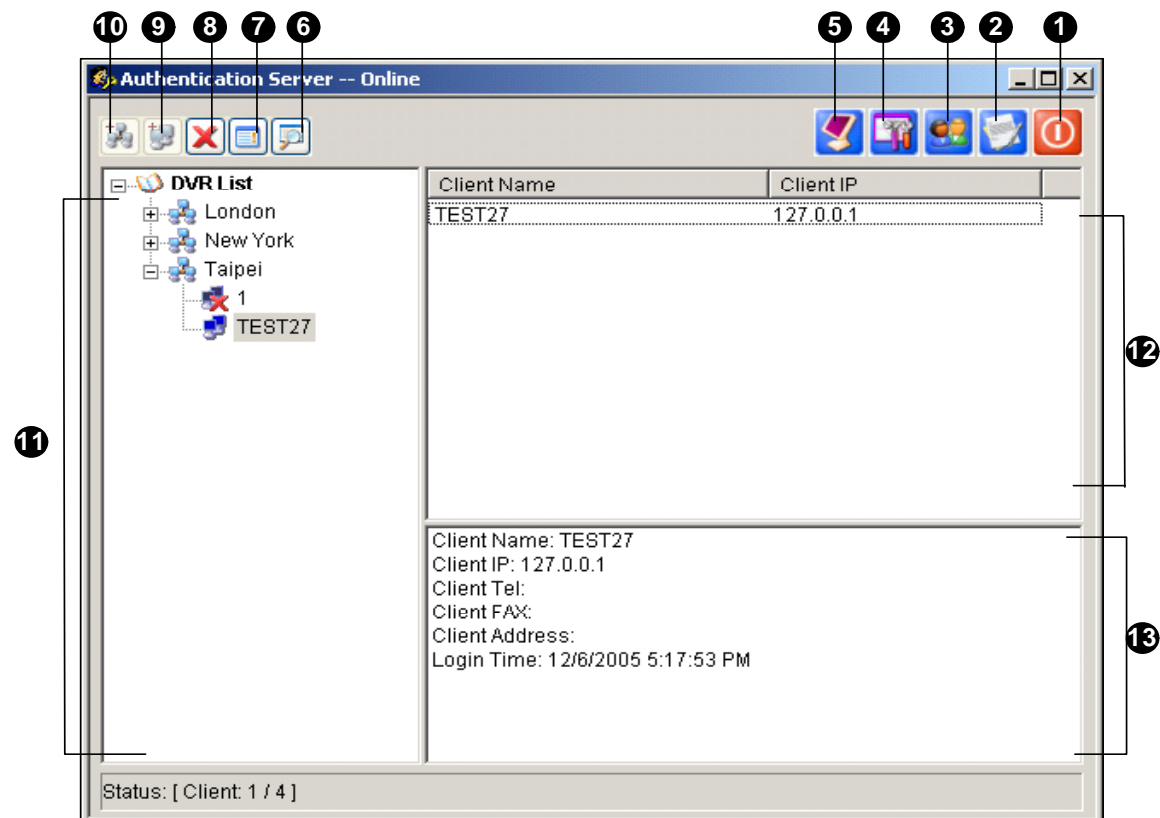

Figure 11-25 The Authentication Server Window
1. To create a group, click the **Add An Area** button (No.10, Figure 11-25).
2. To create a client under the group, click the **Add A Client** button (No.9, Figure 11-25). This displays the Client Information dialog box.
1. Click the **Password Setup** button (No.3, Figure 11-25) to display the Password Setup window. The window is the same as the Password Setup window in Main System (see Figure 1-29), except the following section.
1. Click the **Server Setup** button (No. 4, Figure 11-25). This dialog box appears.
3. Click the **Start/Stop Service** button (No. 5, Figure 11-25) to start the connection.